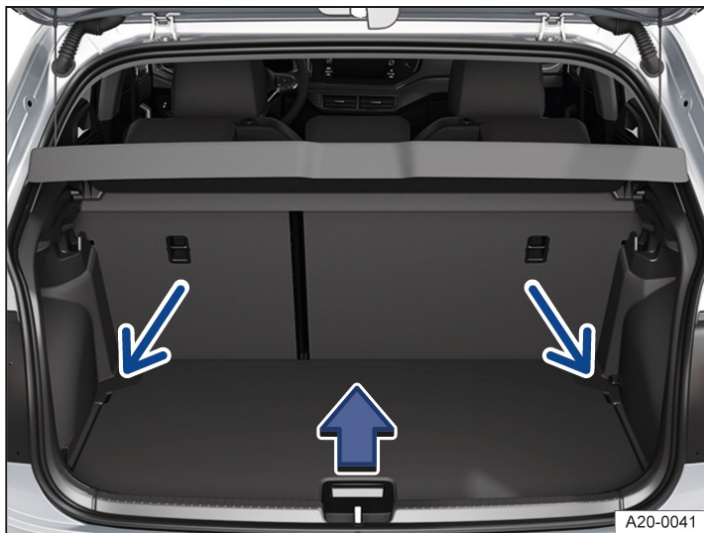

Fig. 1 In the luggage compartment: opening the variable luggage compartment floor.
1. Grip the handle recess in the variable luggage compartment floor → *Fig. 1* and lift the luggage compartment floor upwards.